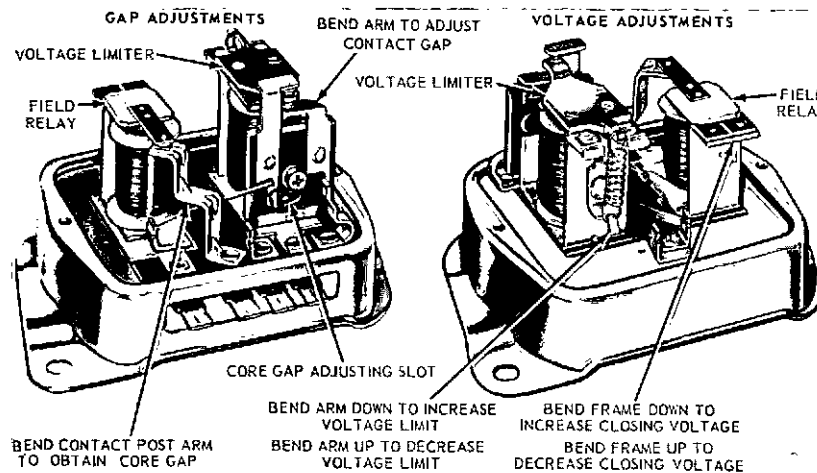

Fig. 15 — Ford Autolite Regulator Adjustment Points
Bend the lower contact bracket to obtain 0.017 to 0.022-inch gap at the lower contacts with the upper contacts closed. (Fig. 15). Maintain the contacts in alignment.
**FIELD RELAY** — Place a 0.010 to 0.018-inch feeler gauge on top of the contact spring arm. Bend the contact post arm (Fig. 15) until the bottom contact just touches the upper contact.
**FIELD RELAY** — The field relay closing voltage is 2.5 — 4 volts and is adjusted by bending the relay frame (Fig. 15). To increase the closing voltage, bend the armature frame down. To decrease the closing voltage, bend the frame up.
**VOLTAGE LIMITER** — The voltage limiter is adjusted by bending the voltage limiter spring arm (Fig. 15). To increase the voltage setting, bend the adjusting arm downward. To decrease the voltage setting, bend the adjusting arm upward. (See Table in Specifications).